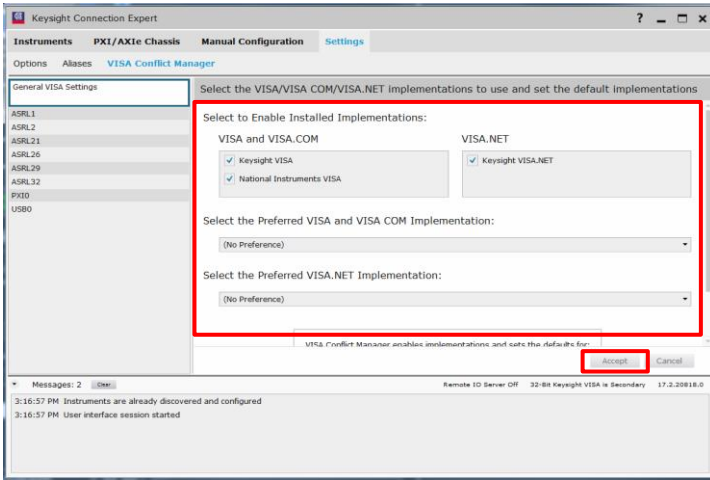

Figure 21 Keysight Connection Expert Window
8. In the *Keysight Connection Expert* window, click *Settings>VISA Conflict Manager>General VISA Settings*. Select the parameters as shown in Figure 21 and click *Accept*.